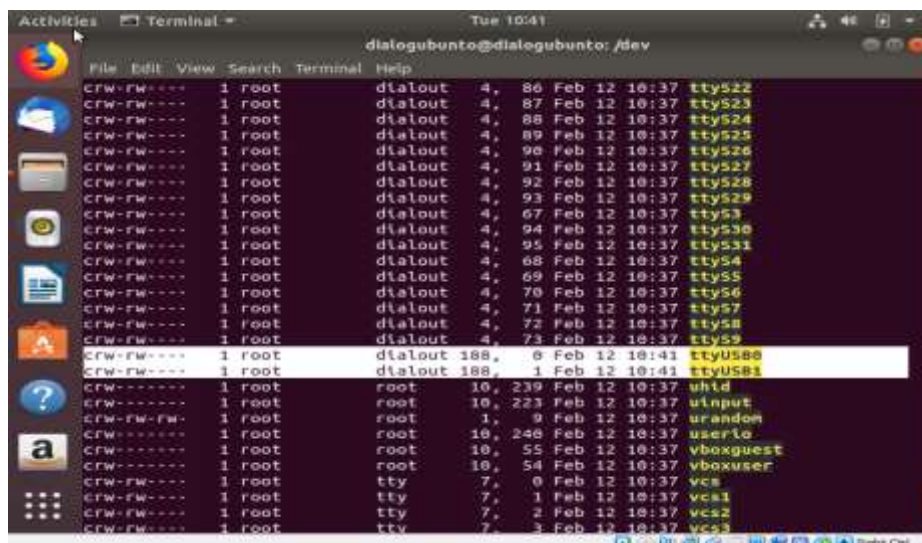
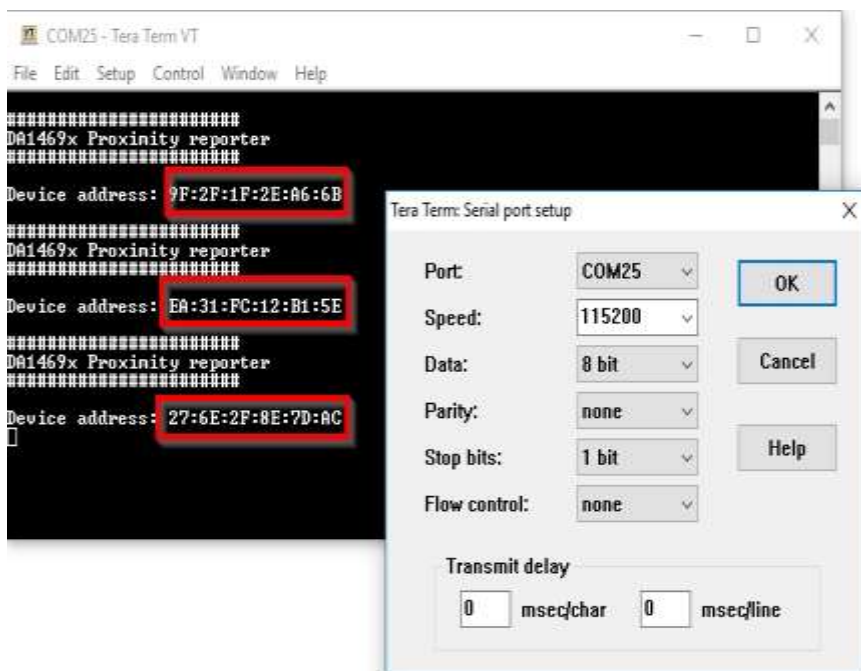

Figure 9: Ports assigned to ProDK
Figure 10: Terminal output via Tera Term (Windows)
When ProDK is connected to a host PC running a Linux distribution (such as Ubuntu or CentOS) and has Internet connectivity, the system will detect several devices and all necessary drivers will be silently installed. Provided that the process has properly finished, two additional devices will appear in the /dev directory under the names **tttyUSB0** and **tttyUSB1**, as shown in **Figure 9**. These names might be different in case other serial converters are connected to the system beforehand. If no other serial port converters are connected, the device that should be used with the terminal or programmer utility will be called **/dev/tttyUSB0**. If there are more devices with the name **tttyUSBx**, note which ones showed up when the ProDK was connected and use the lower number of the two devices.
- **Step 5** Select Setup > Serial Port a as shown in Figure 10 and configure your UART port using the parameters as shown in **Table 4**.
- **Step 6** Open the the Lowest COM port number assigned to the ProDK, refer to **Figure 9** to figure out which port number is used by Windows by running the Windows Device Manager. Make sure that the UART is configured as shown in **Table 4**. Once you have a connection, you should start to see something as shown in **Figure 10**. The DA1496X device use random BLE addresses, new address is generated on every reset button push.